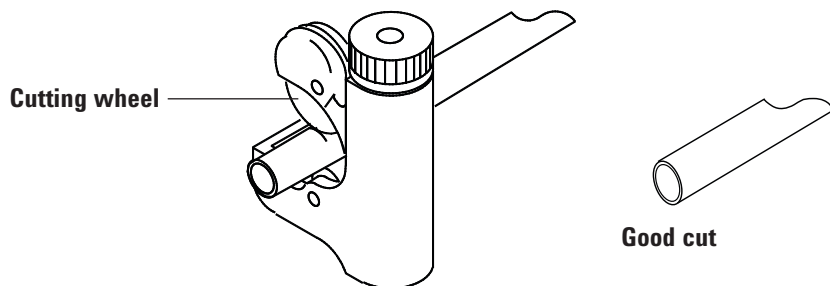

Figure 8. Typical tubing cutter
- 2 Cut the tubing to length with a tubing cutter. See Figure 8.